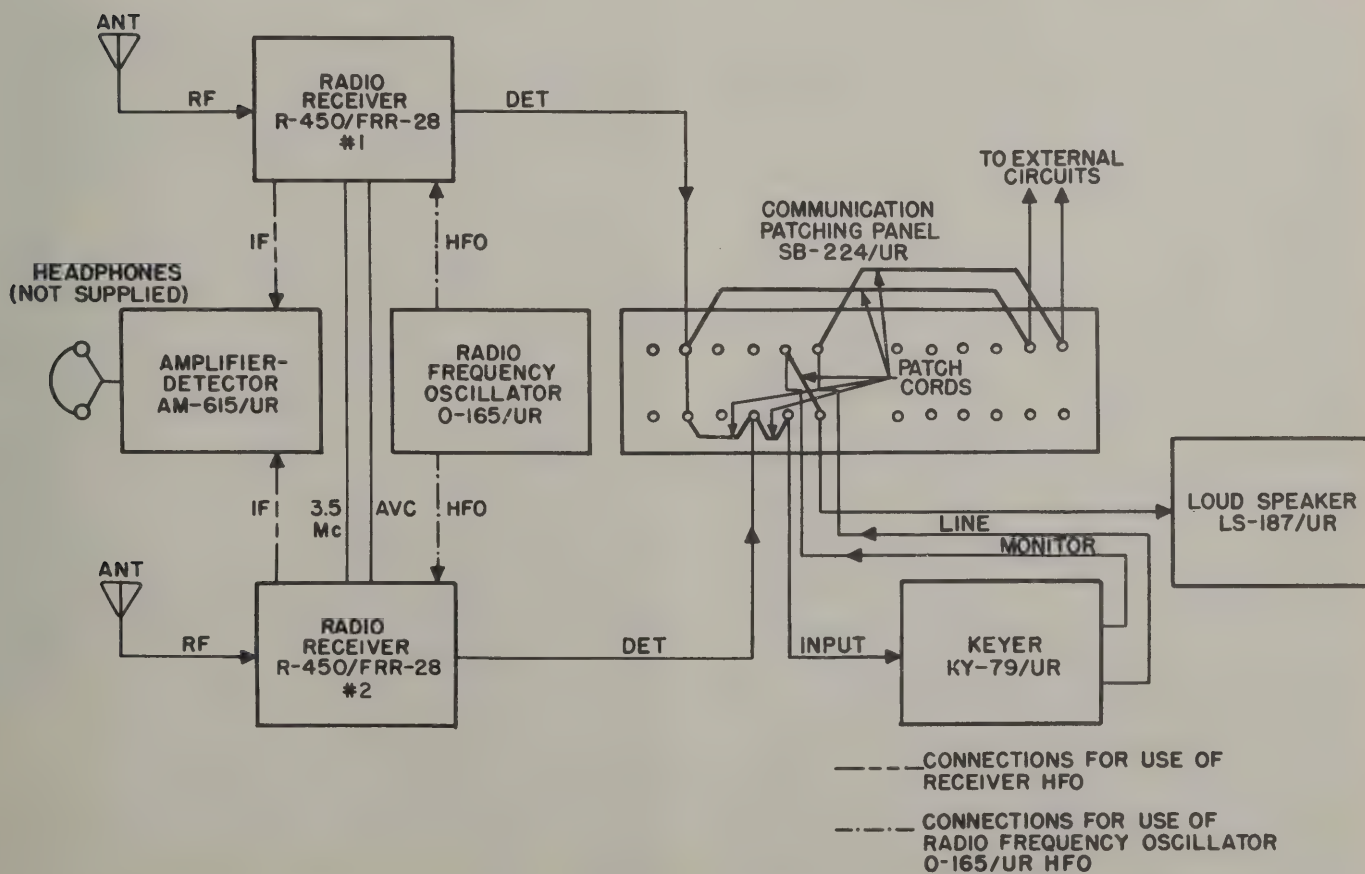

Figure 2-5. Radio Receiving Set AN/FRR-28, Block Diagram, Diversity Reception of CW Signals
e. DUAL SPACE OR FREQUENCY DIVERSITY RECEPTION OF CW SIGNALS. (See figure 2-5.)—The dual space, or frequency diversity, CW signals are fed from the antenna to the receivers. In space diversity reception of AM CW signals, either the receiver internal oscillator or Oscillator O-165/UR is used. Amplifier-Detector AM-615/UR may be used to tune both receivers to the same frequency. In space diversity reception of unmodulated CW signals, common HFO and 3.5 megacycle signals are used to produce a single